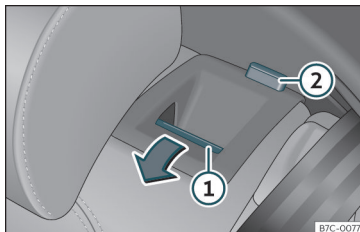

Fig. 107 Rear seat: folding the backrest.
- Pull the unlock button»» **Fig. 107** ① forward and lift the backrest at the same time. The rear seat backrest is not engaged when the red marking of the button ② is visible.